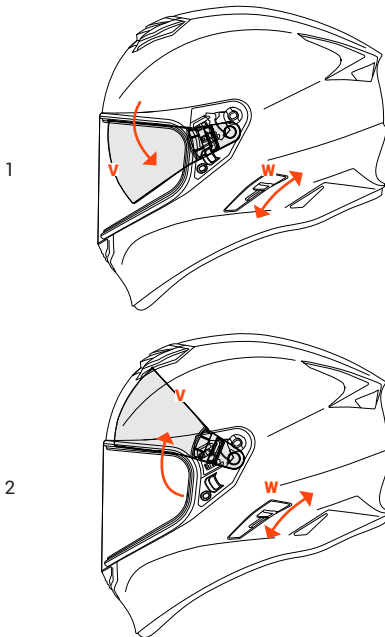

FIGURE 17
**How to operate – Figure 17**